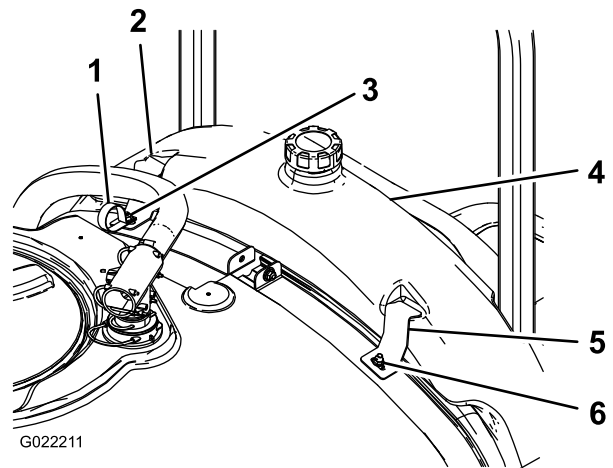

Figure 5
3. Install the rinse tank as shown in Figure 5.
4. Using 2 flange nuts, install the rinse tank brackets to the previously installed carriage bolts (Figure 5).